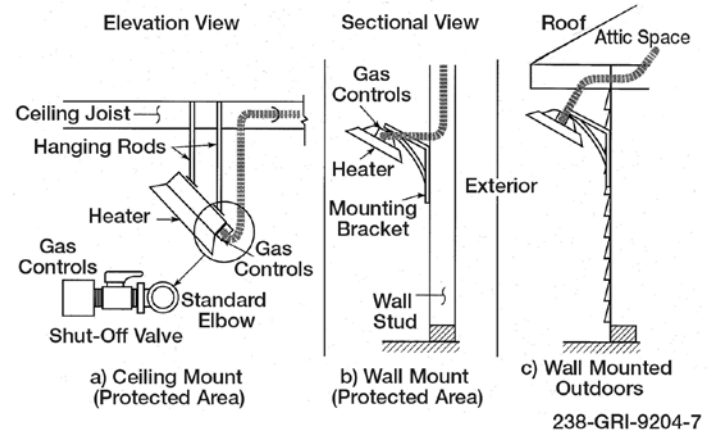

Fig. 4-71
- e) Infrared heaters (Fig. 4-71) that are solidly mounted to ceilings and walls of structures may be connected to the Gastite®/FlashShield™ CSST system as shown in the figures below and in accordance with the manufacturers instructions. High Density infrared heaters generally fall into this category. Gastite®/FlashShield™ CSST should be mounted to a fixed point and not on the end involved with the typical expansion and contraction associated with these heaters.